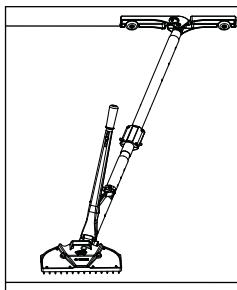
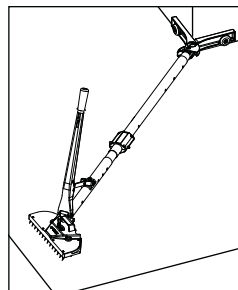

Figure 4
Figure 5
C. Lock at 15° for normal angle stretching (See figure 4). Lock at 30° for extreme angles such as those often found in living room/dining rooms. (See figure 5.)